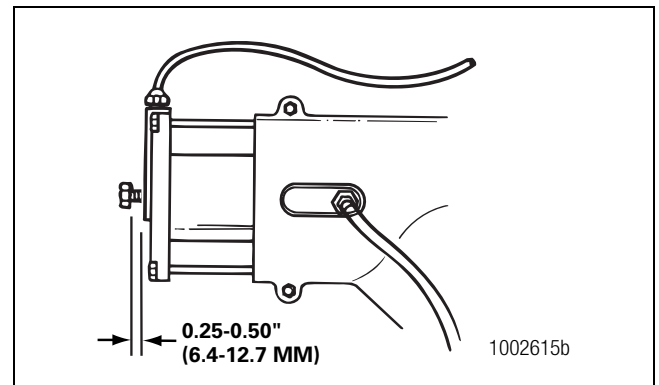

Figure 11.8
- D. Turn the capscrew to the right until the head is approximately 0.25- to 0.50-inch (6.4 to 12.7 mm) from the cylinder. The capscrew is now in the service position and the DCDL shift collar is locked (engaged). Figure 11.8. When turning the capscrew you will feel a small amount of resistance. This is normal. If you feel a high resistance before achieving the 0.25- to 0.50-inch distance between the capscrew head and cylinder, STOP TURNING THE CAPSCREW and continue with Steps E and F.